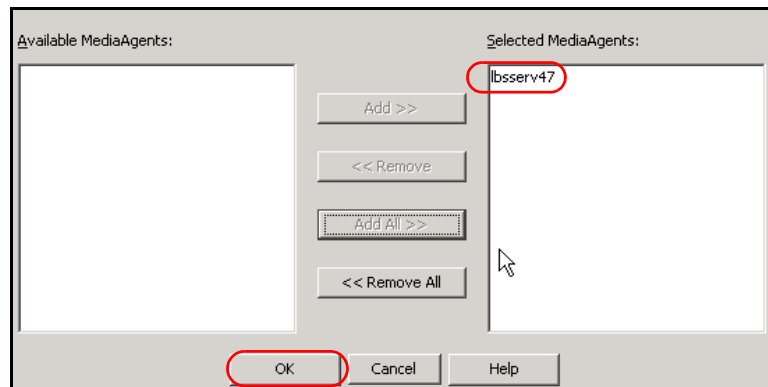

Figure 18-3 Select the MediaAgent
3. Under the Available MediaAgents pane, double-click the server name. This action moves the server to the pane at the right (Figure 18-3). Click **OK**.